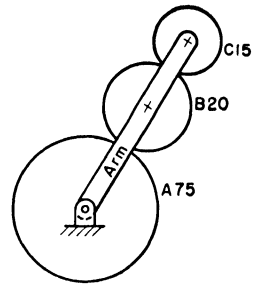

Fig. P 11.8
11.8. In Fig. P 11.8, gear *A* is fixed and the arm is turned 3 revolutions in a clockwise direction. Determine the number and direction of absolute turns of gear *C*.
11.9. In Fig. P 11.8, gear *A* turns 2 revolutions in a counterclockwise direction while the arm turns 4 revolutions in a clockwise direction. Determine the directions and absolute turns of gears *B* and *C*.